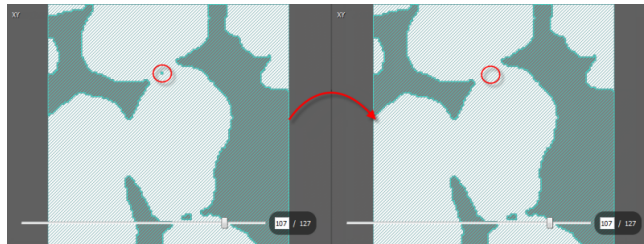

Figure 7.8: Removing islands
- Press *Apply*. The islands are then removed (see Figure 7.8).